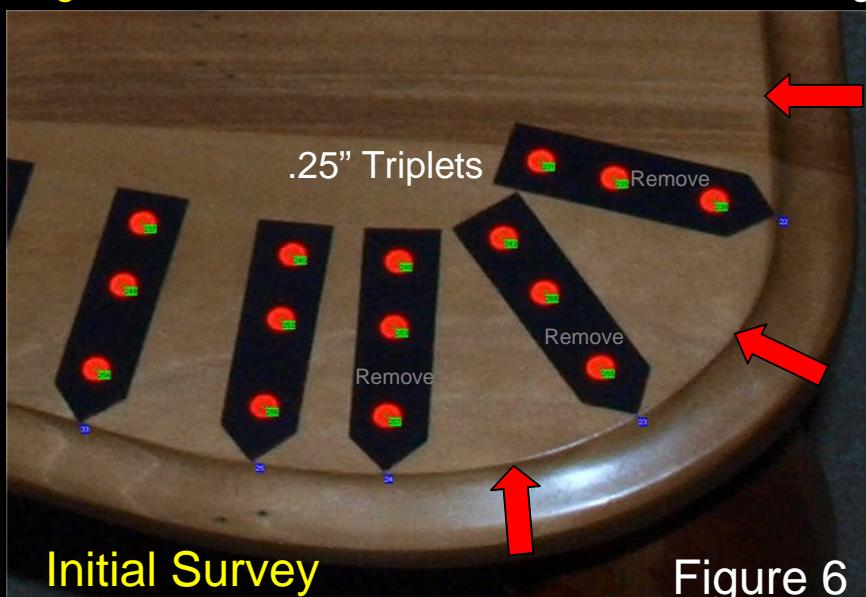

Figure 6
The demo project incorporated curves on the 4 corners of the Table Top (Figure 6). In this initial project, the .25” dot Triplets are physically too large to try and place enough of them to define the curves, as noted in the areas of the red arrows in Figure 6.
1. Remove enough of the .25" Triplets in the curved areas, so the .15" Triplets can be applied adjacent to where the .25" Triplets were imaged – (noted in Figure 6 and 7).